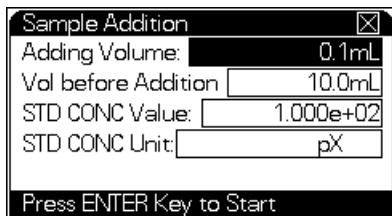

Figure 33 Sample Addition
- 3 Press [**Measure**]. The meter enters sample addition mode as shown in Figure 33.